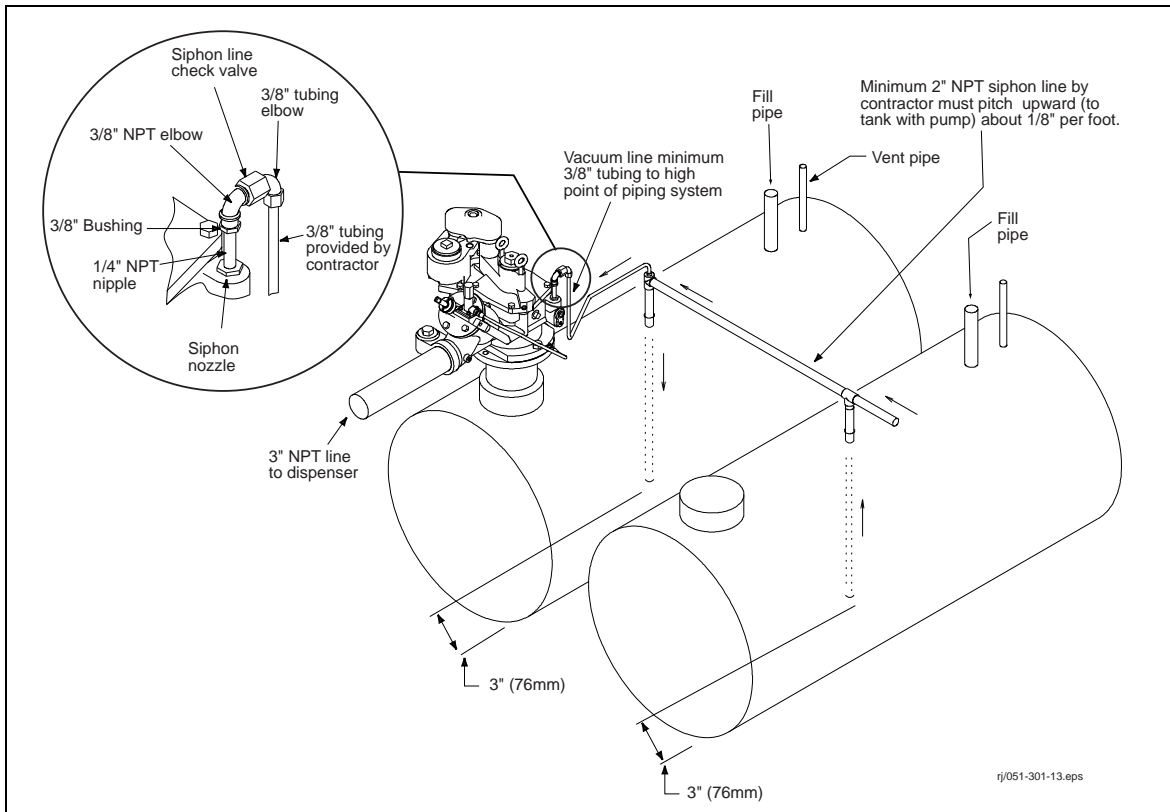

Figure 8. Installing A Siphon And Vacuum Lines
1. If a siphon system is required, each pump must have 3/8 inch siphon vacuum line attached to the same location on the siphon line (reference Figure 8).